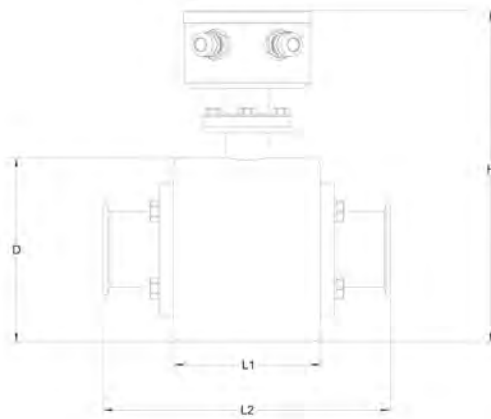

Figure 2-2. Meter Body Dimensions
1. Make sure the pipe section selected for the meter body has the proper clearance and support for the meter body with connection adapters. See Figure 2-2 and the table below for meter body dimensions and weight.